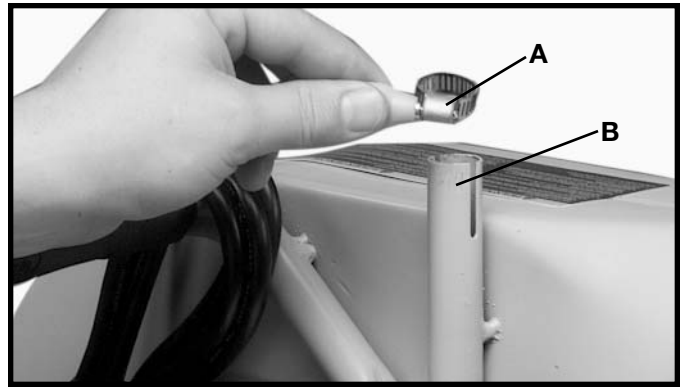

Fig. 7
1. Place tube clamp (A) Fig. 7 on the lower support tube holder (B).